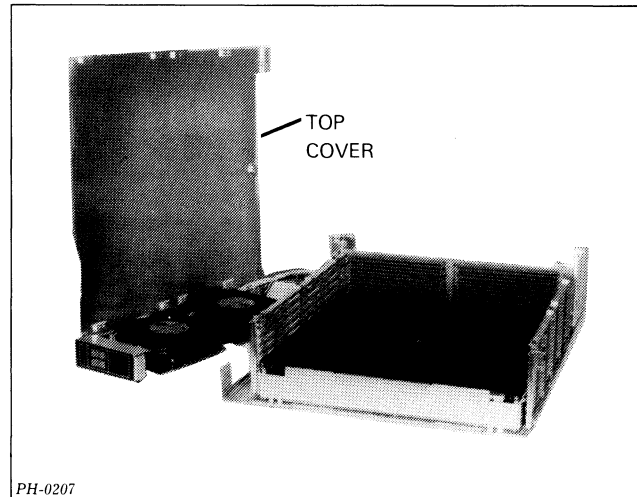

Figure 12.7 Removing the top cover (5-slot chassis)
8. Lift the top cover up and over to the left so that it lies on its side. (See Figure 12.7.)